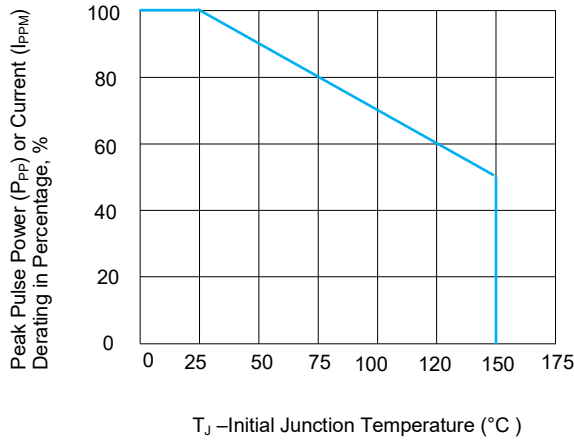
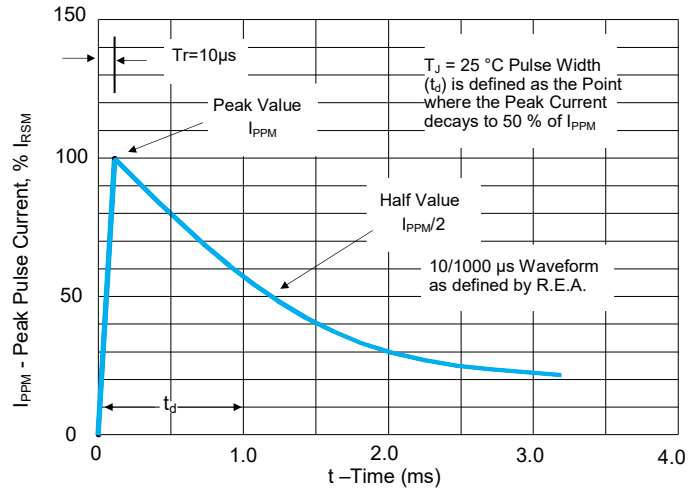

FIGURE 3 Peak Pulse Power Derating Curve
FIGURE 4 Pulse Waveform
1. Non-repetitive current pulse, per Fig. 4 and derated above  $T_J(\text{initial})=25\text{ °C}$  per Fig. 3.